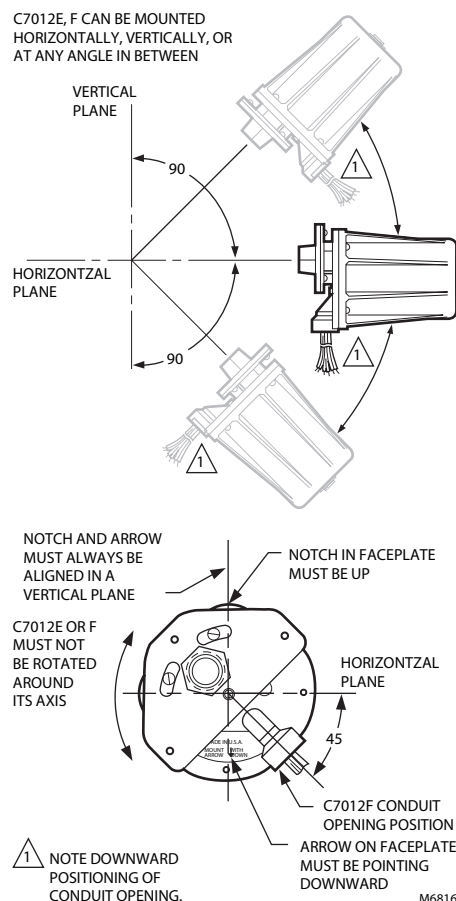

Fig. 6. C7012E,F mounting positions.
The C7012E,F Self-Checking Flame Detectors incorporate an oscillating shutter mechanism and, therefore, require special consideration for mounting positions other than vertically sighting downward or upward. The C7012E has notch and arrow indicators (see Fig. 6) on the faceplate to facilitate mounting. The notch and arrow must be vertically aligned with the notch in the up position and the arrow pointing downward
(see Fig. 6). The C7012F must be mounted with the conduit opening located approximately 45 degrees below the horizontal (see Fig. 6).
*The C7012F housing **must** be mounted with the conduit opening approximately 45° **below horizontal** (see Fig. 6).*